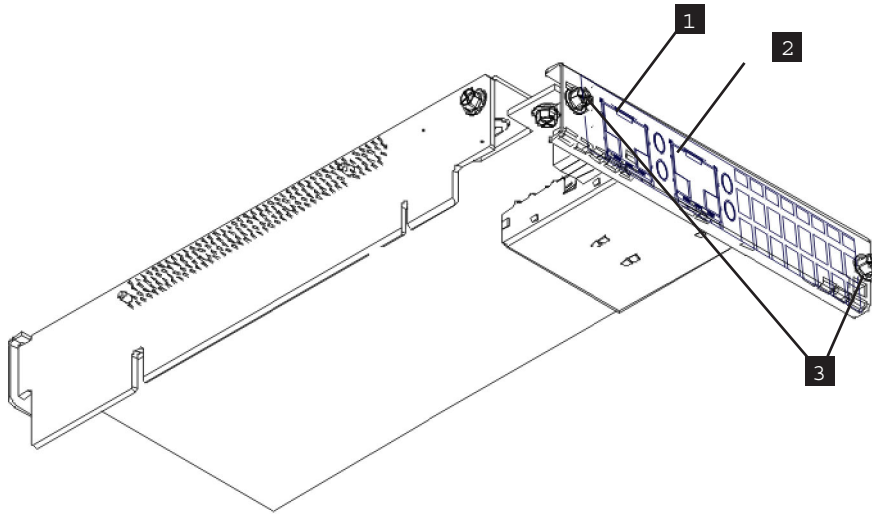

Figure 191. SAN Volume Controller 2145-CG8 10 Gbps Ethernet riser-card assembly with cutaway view of back rail
6. Anchor the Ethernet riser-card assembly using two fastening screws from the back of the node, as shown in the cutaway view of a section of the rail in Figure 191 on page 193.